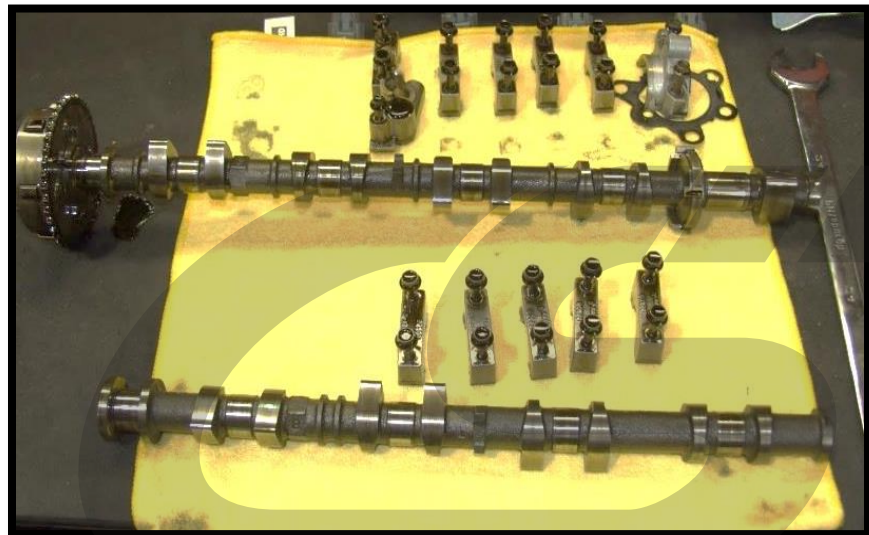

Figure 3w
- w) **Lay out all the caps and camshafts on a clean surface in the exact order and orientation they were removed** (Figure 3w).